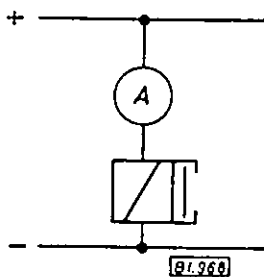

Fig. 7 Current measurement
- b) Check whether coil is connected. Wire ammeter into circuit (Fig. 7) when the following current intensities should be indicated: